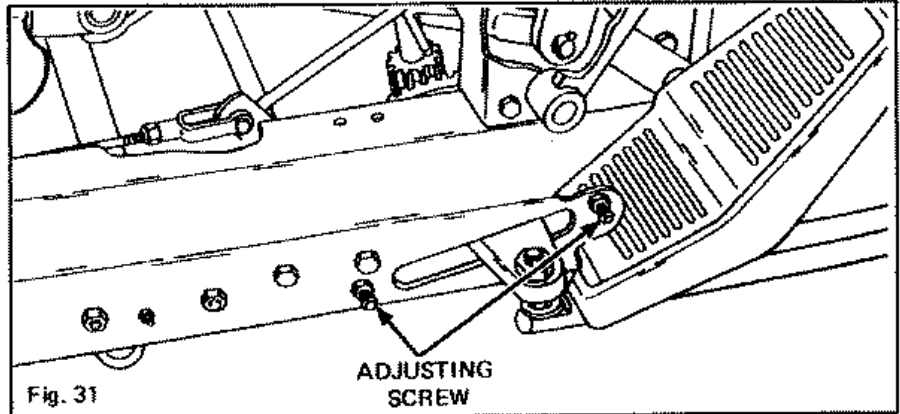

Fig. 31
A. You will find a slot in the right hand frame at the rear of the steering drag link where it connects to the steering gear. (See Figure 31). Near each end of the slot is a square head setscrew, with lock nut, inserted in the frame.